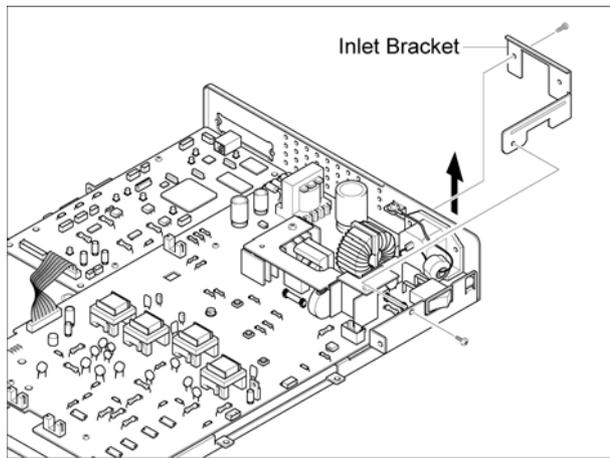

Figure 1
2. Remove 2 screws, then the Inlet Bracket, Figure 1.